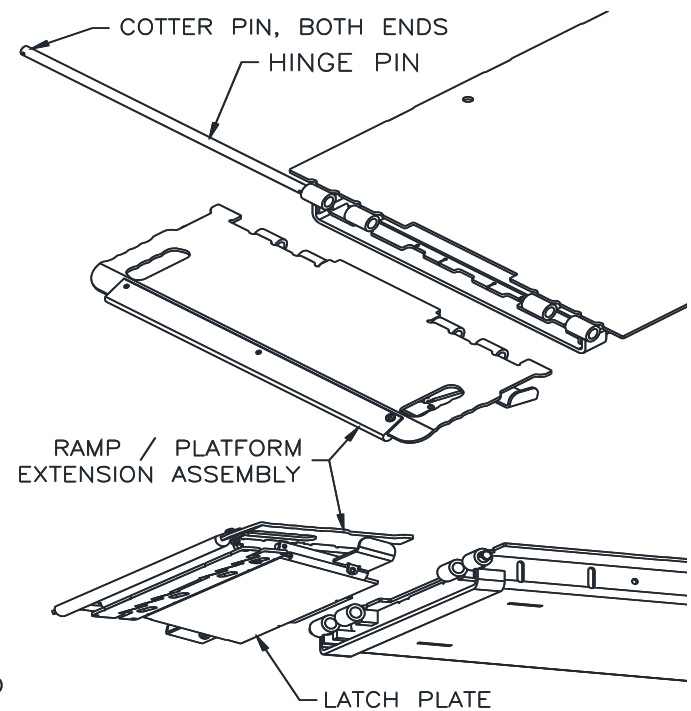

Fig. 10 INSTALLING THE RAMPS
11. Install each of the four (4) identical Ramp Assemblies using the 9/16" diameter Hinge Pin and two (2) Cotter Pins, **Fig. 10**. The Platform Extension Latch Plate should extend up inside the end of the Main Structure. **Hint:** Secure a cotter pin to one end of the hinge pin and insert the other end of the pin all the way into an outer hinge tube on the platform. It will rest there and even carry the weight of one corner of the ramp. This allows one hand to hold and balance the ramp assembly while using the other hand to slide the pin into the remaining hinge tubes. Secure the hinge pin with the second cotter pin.